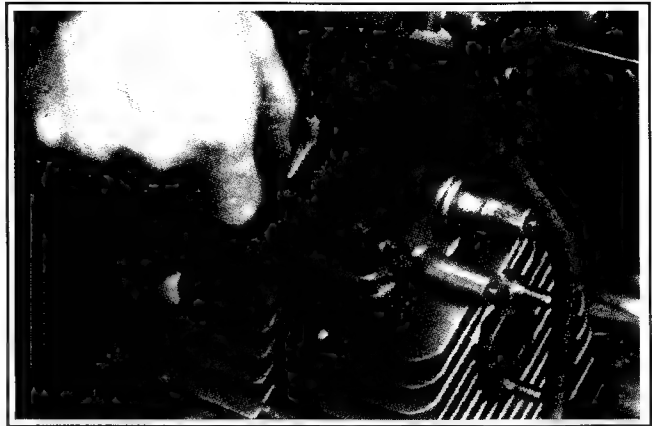

Figure 9-60. Compress Springs to Remove Keepers.
2. Turn the crankcase upright, compress the valve springs, and remove the valve keepers. See Figure 9-60.